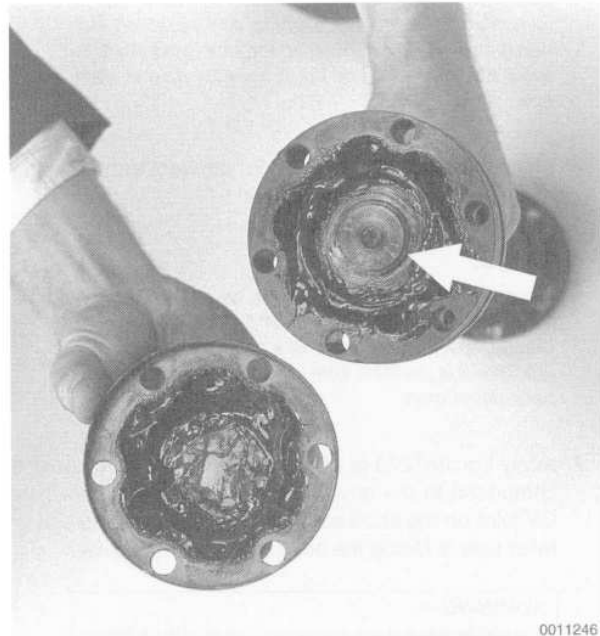

Fig. 11. Outer dust cover shown removed from CV joint. Clean away grease and remove circlip (arrow) from shaft end.
3. Lift off the outer dust cover from the joint and remove the circlip retaining the joint inner hub to the shaft. See Fig. 11.